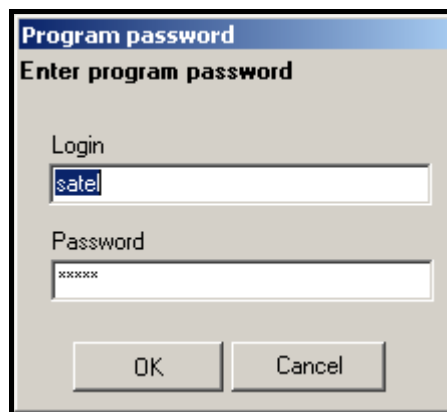

Fig. 19. Password entry window on the first start of the program.
2. Start the ACCO-SOFT-LT program. Access to the program is protected by a password. When running the program for the first time, you will get access on the basis of default password, which is already entered. The default password can be read then (see Fig. 19). **It is recommended that the password of access to the program be changed after the first start.** In order to do so, open the main menu of the program, enter the FILE menu and select PROGRAM ACCESS, and then CHANGE PASSWORD. To change login or add other users who will be authorized to use the program, enter the FILE menu and select PROGRAM ACCESS, and then PROGRAM USERS.